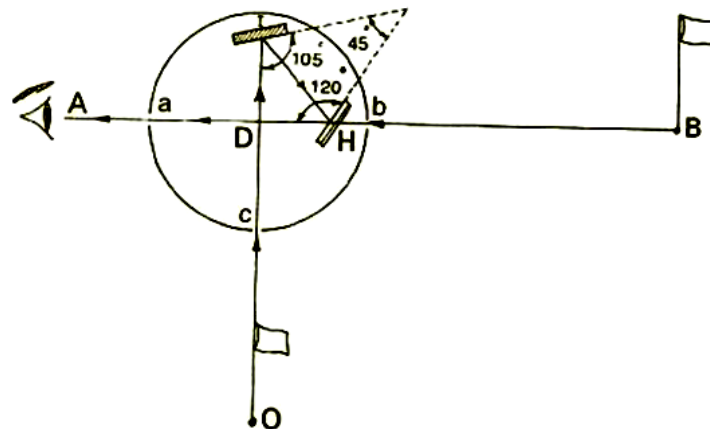

Fig.8. Optical square
It is more accurate than the cross staff and it can be used for locating objects situated at larger distances. It is small and compact hand instrument (Fig.8) and works on the principle of reflection. Generally it is a round brass box about 5 cm in diameter and 1.25 cm deep. There is also a metal cover to protect it from dust, moisture etc. As shown in fig. 8, it consists of horizontal mirror (H) and index mirror (I) placed at an angle of  $45^\circ$  to each other. The mirror H is half silvered and the upper half is plain while the mirror I is fully silvered. There are three openings a, b and c on the sides. Let AB is the chain line and it is required to locate an object O during the process of surveying. The optical square is held in such a manner that a ray of light from object O passes through slot c, strikes the mirror, gets reflected and strikes the silvered portion of the mirror H. After being reflected from H, the ray passes through the pin hole and becomes visible to the eye. The